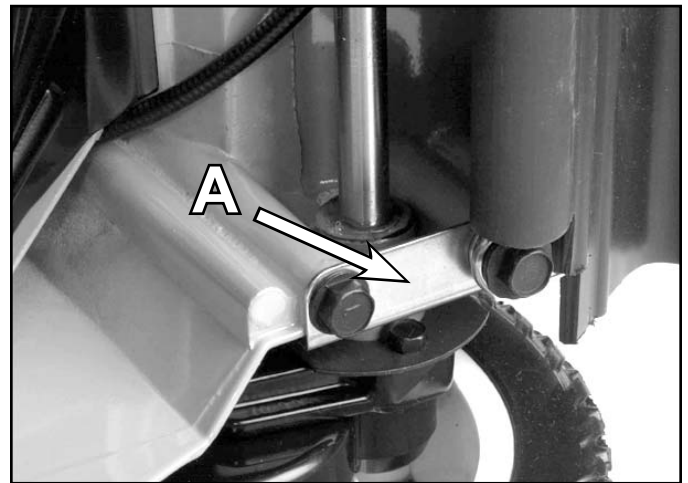

Fig 119
8. Turn the mower onto its right side and remove the four flanged head self-tapping screws securing the end caps to the housing (Fig. 119).